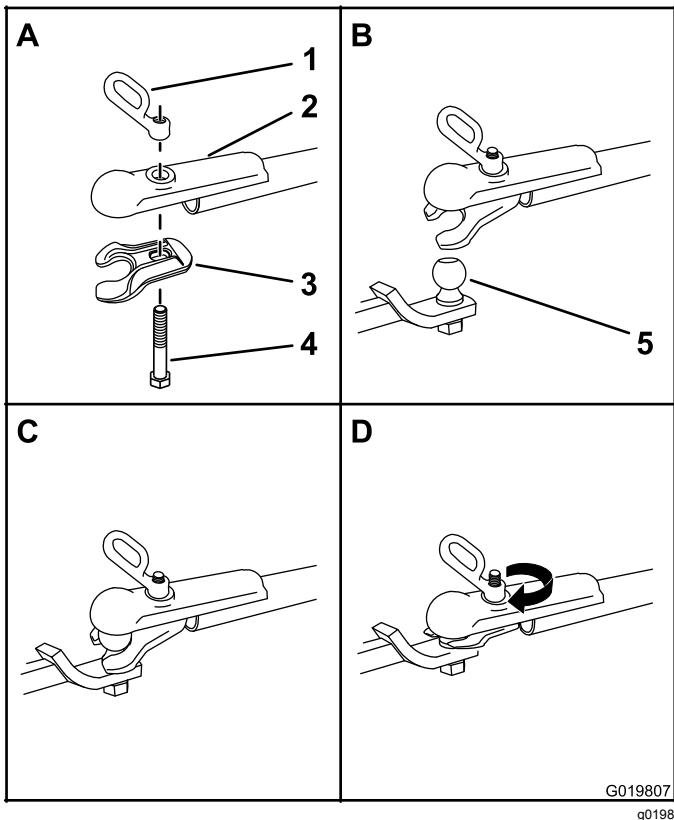

Figure 18
- Apply removable thread-locking compound to the threads of the coupler bolt to prevent the coupler handle from coming loose (Figure 18).
- Push the coupler bolt up through the coupler clamp and the coupler top, and connect the coupler handle to the bolt (Figure 18).
- Turn the coupler handle clockwise to thread it onto the bolt until it is secure (Figure 18).